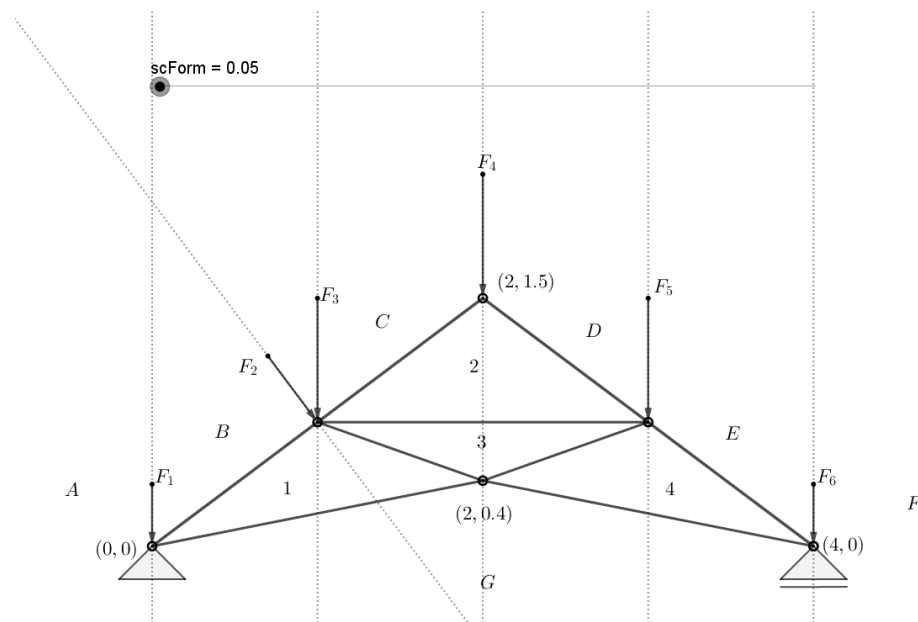

Fig.1. Simply supported truss.
1. A simply supported truss is given in file "Truss_f.ggb", see also Fig.1. The truss is loaded with 6 loads (F_1, F_2, \dots, F_6). The loads are given in kN and are multiplied with the factor scForm. The material of the structure is steel with modulus of elasticity $E=205\text{GPa}$ and yield strength $\sigma_y=275\text{MPa}$.
- d) Explain with your own words how you would calculate the displacement of the joint with coordinates (2,0.4), see Fig.1. Explain clearly the process. Which property of the structure can be defined by defining the displacement?